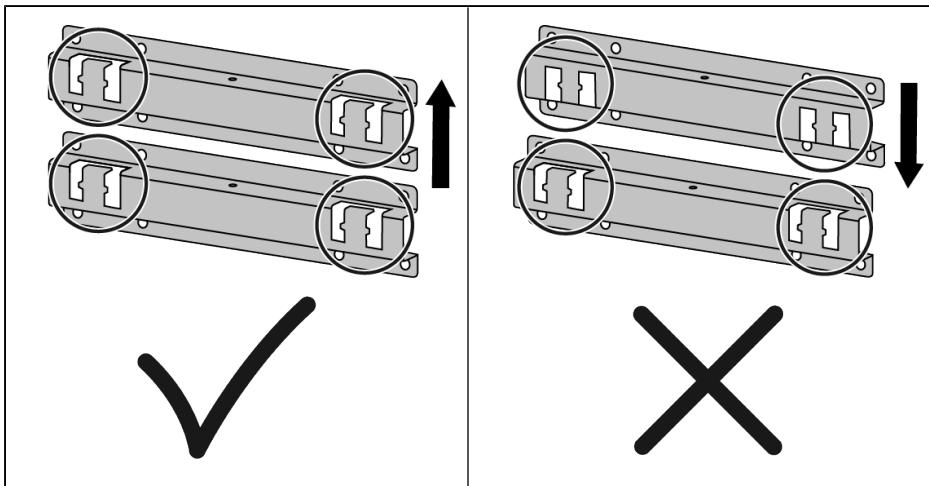
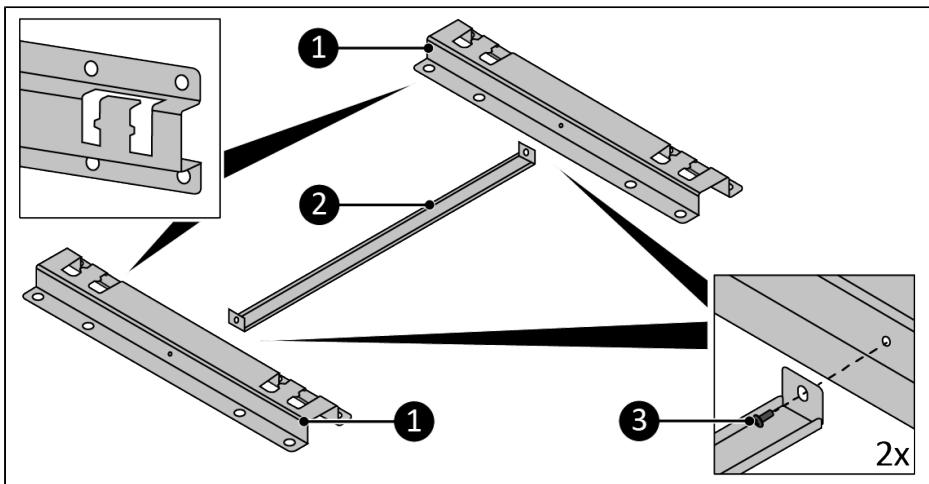

Figure 31.
Figure 32.
Make sure the openings of both brackets point upwards, see Figure 31 and Figure 32 for reference.
1. Mount the distance holder (Figure 32, pos. 2) to the brackets (Figure 32, pos. 1) using the 2 M4 12mm screws (Figure 32, pos. 3).